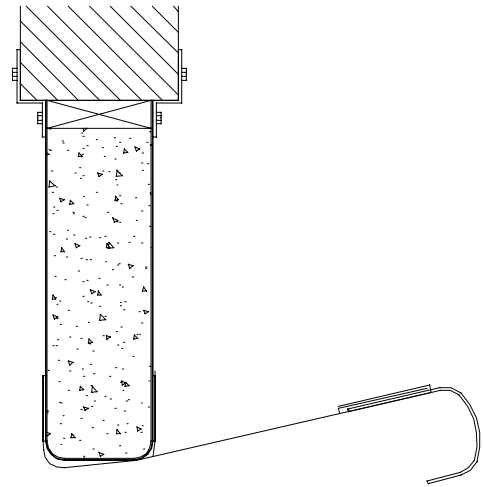

FIGURE 5
2. Make sure that the hook and loop flap on the outside of the side curtain completely covers the hook and loop on the side frame. (See Figure 5)
4. Starting at the top, repeat Steps 1 & 2, to the inside hook and loop flap on the side curtain. However, the GapMaster® side curtains are intentionally made to “toe” or angle inward toward the door opening or building wall. (See Figure 5) The outside hook and loop flap on side curtain is made longer than the inside hook and loop flap. This is done to reduce the effects of the hook pushing the curtain face out on the header assembly. It is important to make sure the side curtains are installed in this fashion. The inside hook and loop flap on the side curtain will overlap and go past the hook and loop on the inside of the side frame. This is normal.